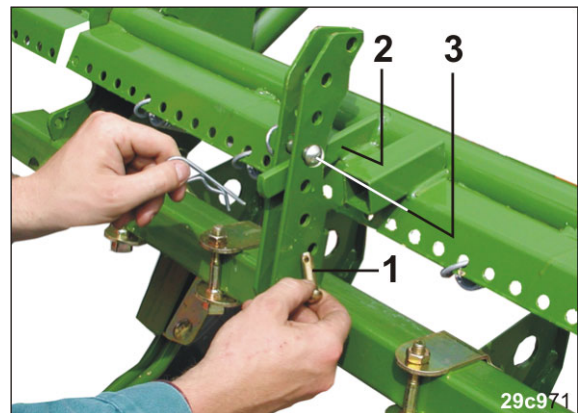

Fig. 193
- 1.3 Insert a pin (Fig. 193/3) in a hole above the lever (Fig. 193/2) and secure with a spring cotter pin.
- 2.3 Insert the pin (Fig. 193/1) in a hole underneath the lever (Fig. 193/2) and secure with a spring cotter pin.